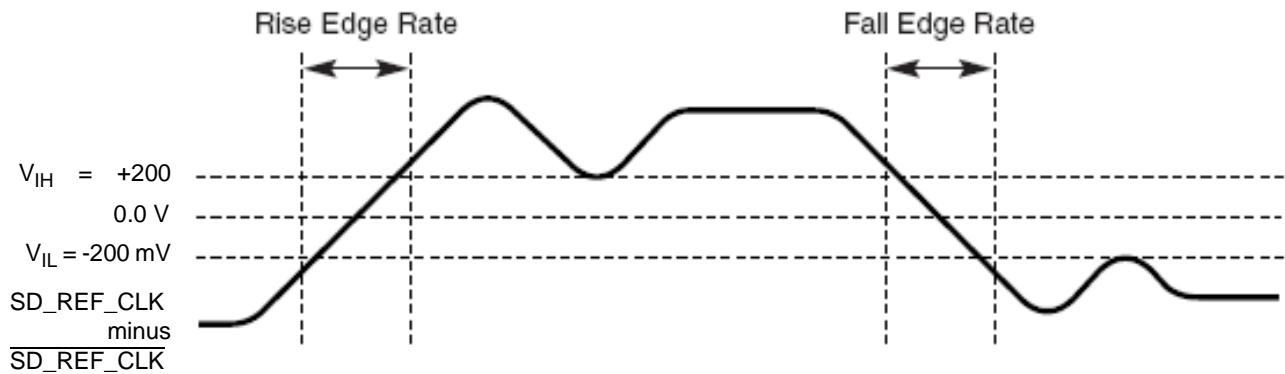

Figure 24. Differential Measurement Points for Rise and Fall Time
3. Measured from -200 mV to +200 mV on the differential waveform (derived from SD_REF_CLK minus $\overline{\text{SD_REF_CLK}}$). The signal must be monotonic through the measurement region for rise and fall time. The 400 mV measurement window is centered on the differential zero crossing (Figure 24).